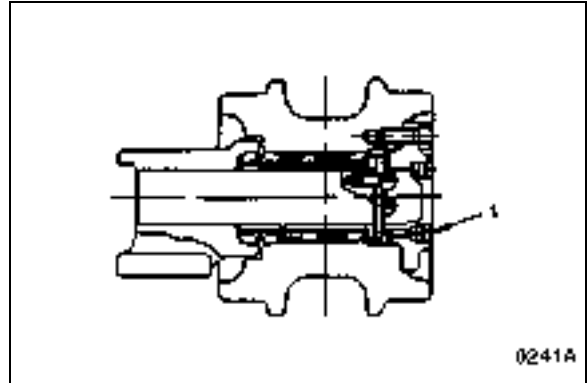

Figure 41
1. Remove the plug (1, Figure 41) from the cover and drain oil.